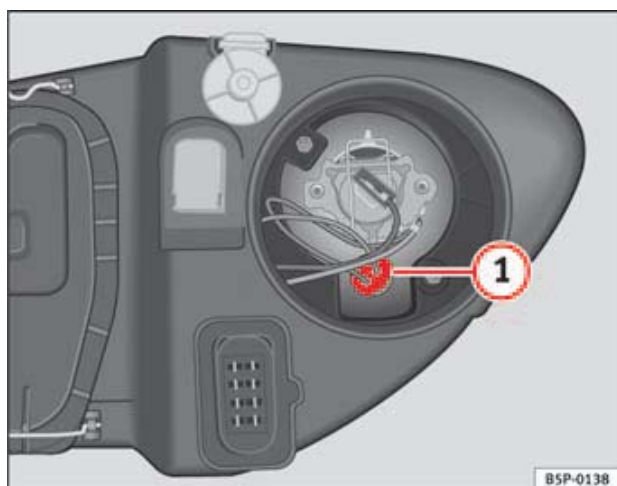

Fig. 169 Side lights
- Extract the lamp holder ⇒ fig. 169 **1** outwards.